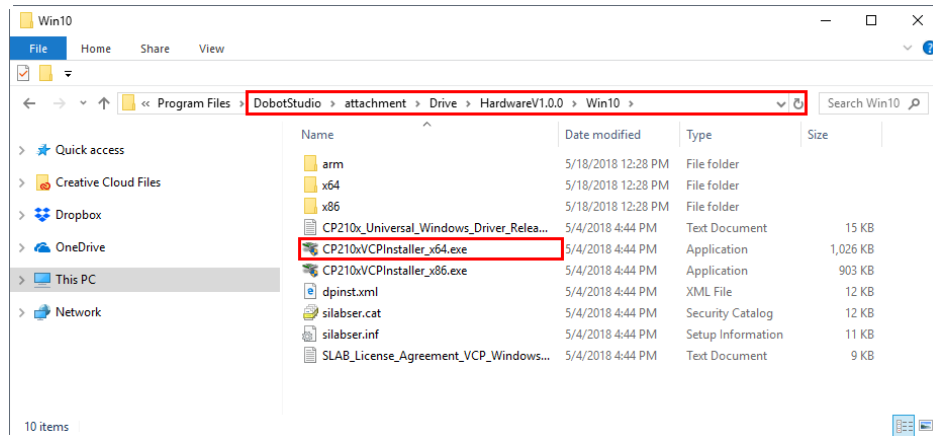

Figure 2.11 Install the 64-bit driver on a 64-bit Windows 10
- To reinstall the Dobot Magician driver after uninstalling it, install the driver corresponding to the Windows version in the directory **Installation Directory\DobotStudio\attachment\Drive\HardwareV1.0.0**. For example, install the 64-bit driver on a 64-bit Windows 10, as shown in Figure 2.11.